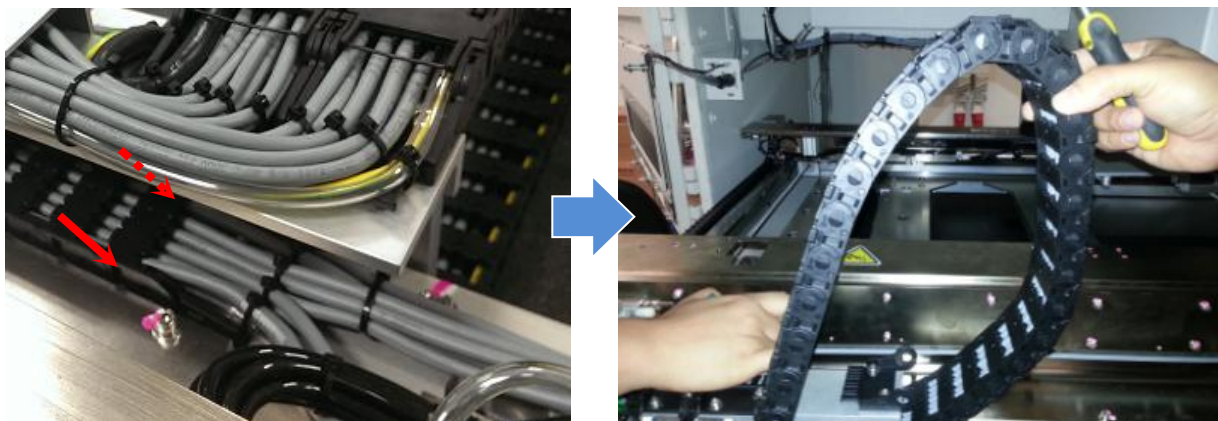

Figure 15 X Axis End Joint Removal
19. Use flat head screwdriver to open V810 S2 X-AXIS E-CHAIN (P/N, 4XAXYS-A174) end joint (top and bottom) as below Figure 15